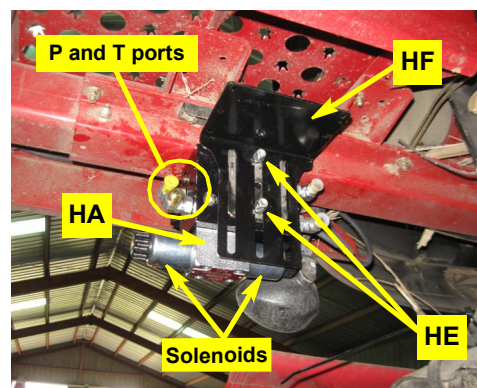

Figure 3: Installed steering block
Using hardware **HE**, mount hydraulic steering block **HA** to bracket **HD** as follows (Figure 3):
- Figure 3 shows bracket **HF** that may or may not be used in your installation. If bracket **HF** is not included in your install kit then disregard